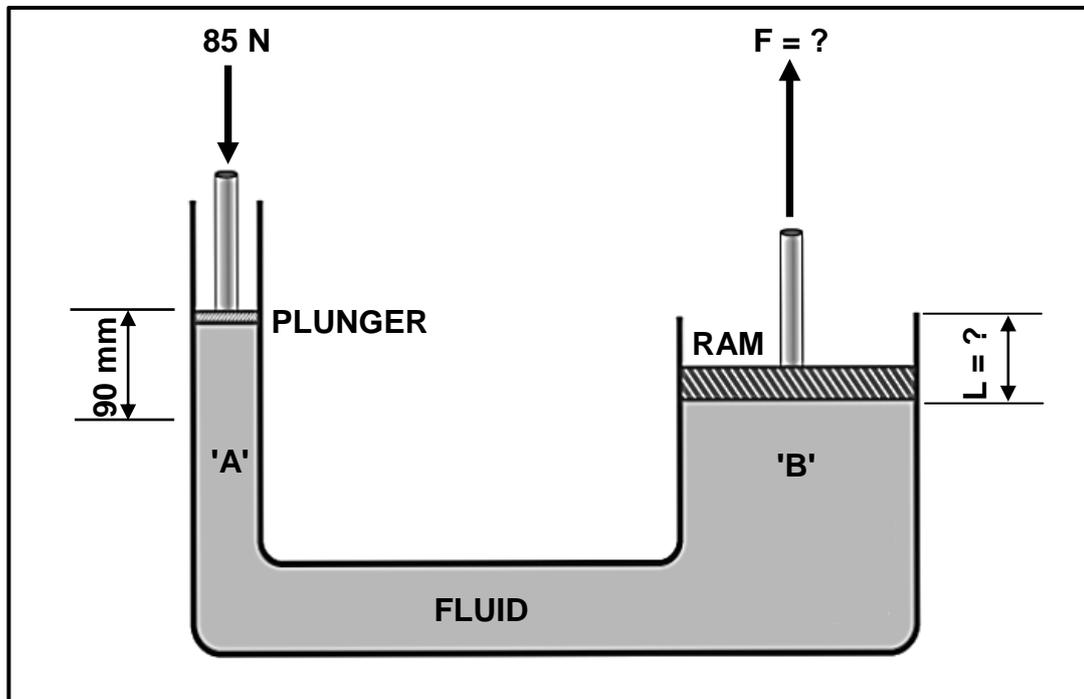

FIGURE 11.1
11.1 FIGURE 11.1 below shows a hydraulic press. A force of 85 N acts on the plunger that moves 90 mm. The area of the plunger is 0,25 m² and the area of the ram is 2,1 m².